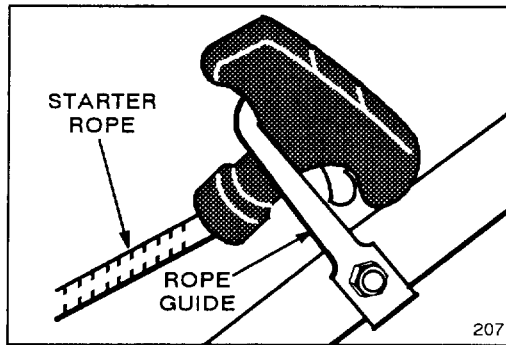

Figure 4
6. Pull starter rope through rope guide on handle (Fig. 4). By squeezing control bar to handle, blade brake will release and allow rope to be pulled up easily to loop.